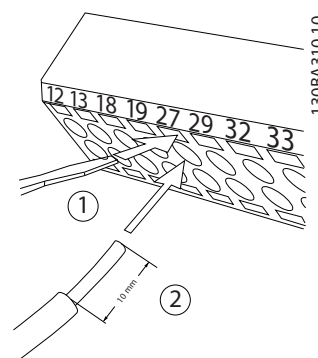

Figure 2.13 Connecting Control Wiring
1. Open the contact by inserting a small screwdriver into the slot above or below the contact, as shown in Figure 2.13.